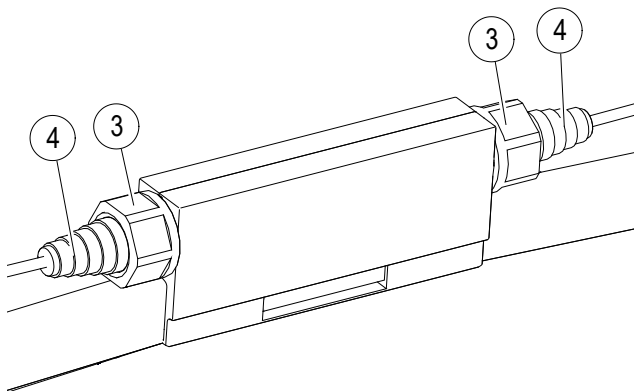

Fig. 44: Screw Connection and Grommet are installed
- Slice the grommet (4) and install screw connection (3) and the grommet (4) (see Fig. 44).